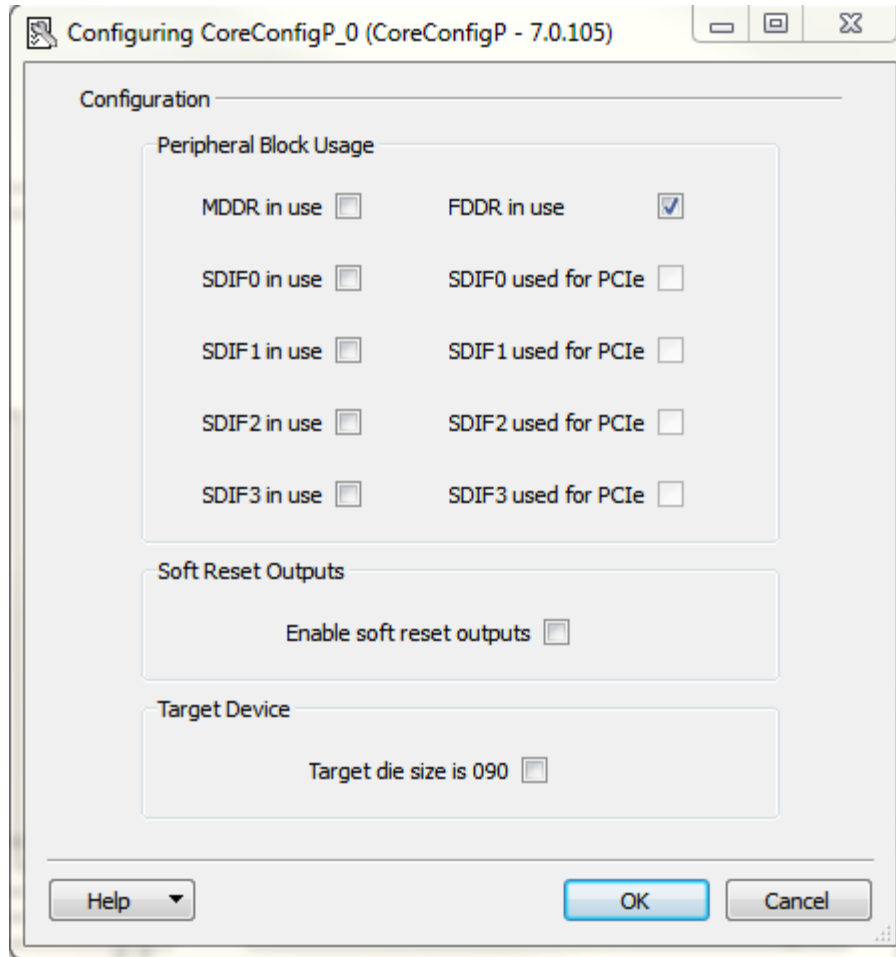

Figure 29 • CoreConfigP Dialog Box
3. Configure the core to specify which peripherals need to be initialized (Figure 29)